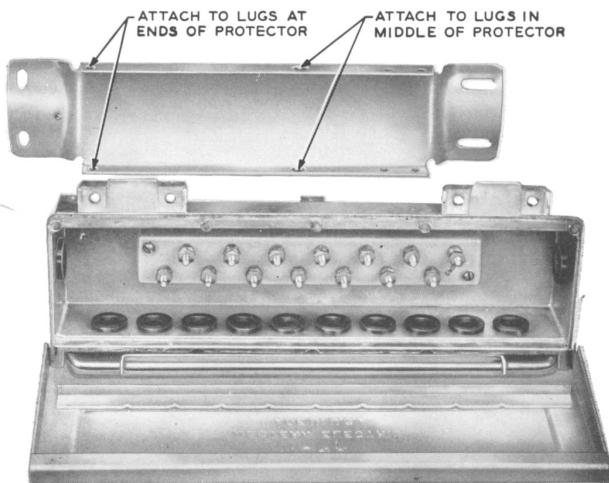

FIG. 1—104A WIRE TERMINAL WITH A
3.01 The 104A wire terminal shown in Fig. 1 employs a mounting similar to a 10-pair, N-type distribution terminal, but is equipped with a